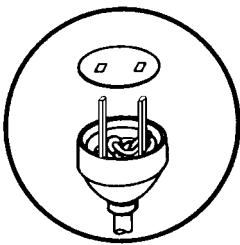

Fig. 11
11. Place insulation cover back over the plug (Fig. 11).